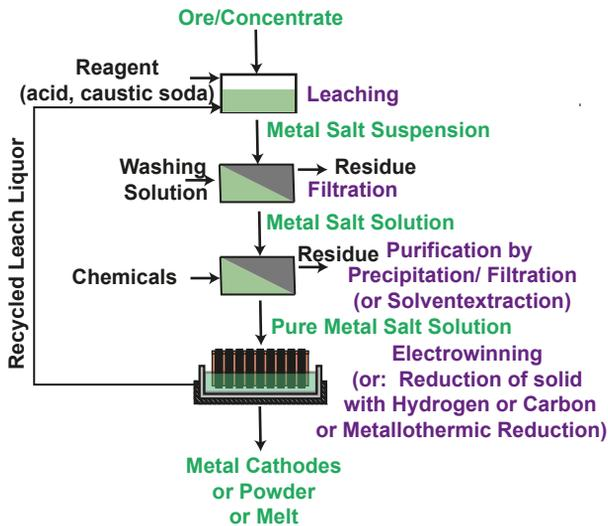

Figure 3.2.: Flowsheet for a Leaching Process
**Leaching** The first step in hydrometallurgy (see figure 3.2) is leaching, to separate the valuable metal from other material. In most cases the valuable metal is in the aqueous phase in a concentration of some grams/liter to max. 200 g/l. As leaching agents often acids like diluted sulfuric acid or hydrochloric acid are used. In some cases also strong basic agents like caustic soda is applied. In other cases especially in precious metals metallurgy not the solution, but the residue contains the valuable metal.